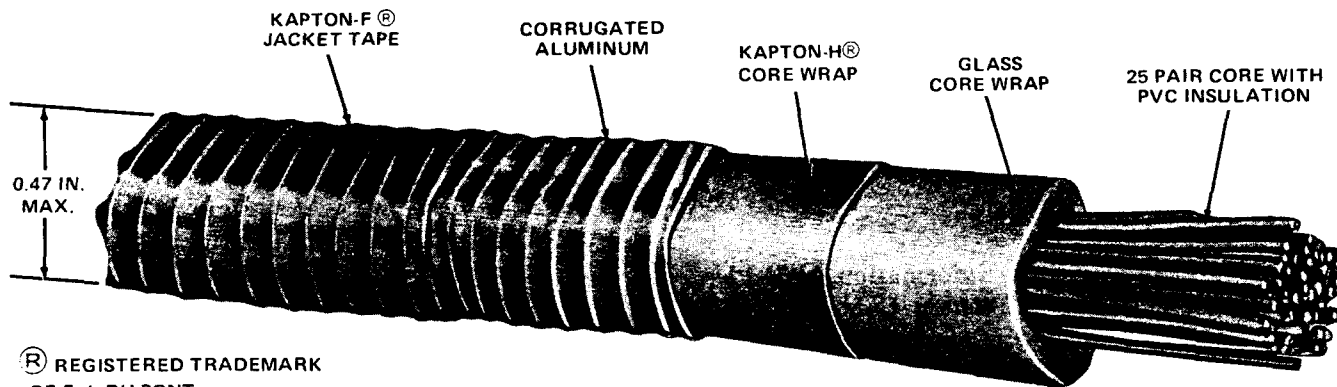

Fig. 1—B Plenum Cable, AT-8976
1.01 This section provides information on B Plenum Cable. The B Plenum Cable, AT-8976 (Fig. 1), is designed primarily for business premises wiring directly in air handling plenums without the need for conduit.
2.01 The B Plenum Cable contains 25 pairs of 24 American Wire Gauge (AWG) copper conductors individually insulated with color coded polyvinyl chloride (PVC) insulation (Fig. 1). Pair identification is shown in Table A. The sheath and core wrap consist of a unique polyimide/aluminum/polyimide/ fiberglass construction which imparts a high degree of thermal resistance to the cable core. The representative outside diameter and weight of the cable are 0.44 inches and 104 pounds/1000 feet, respectively. The standard shipping lengths are 2500 feet and 1000 feet on reels.